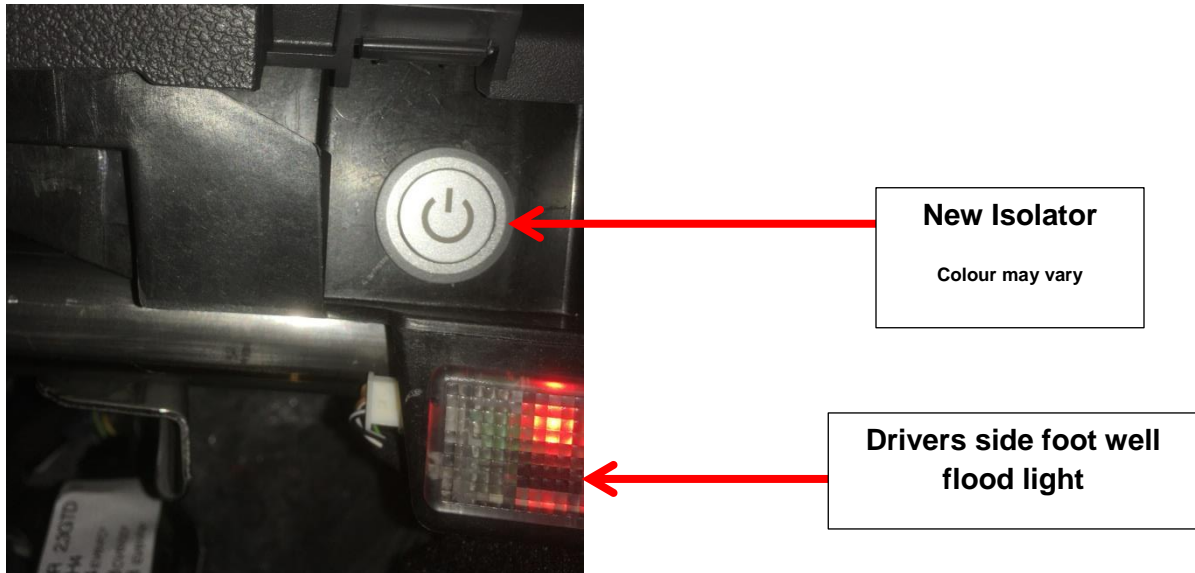

Figure 6
3. Drill a Ø20 hole under the dash near the driver foot well flood light. (See Figure 6)